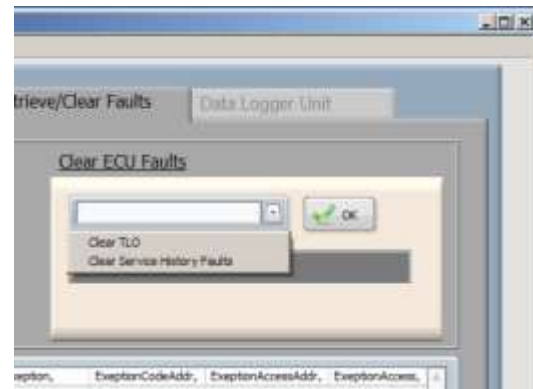

Figure C-30
1. From the “Clear ECU Faults” drop-down menu (Figure C-30) select one of the following options: